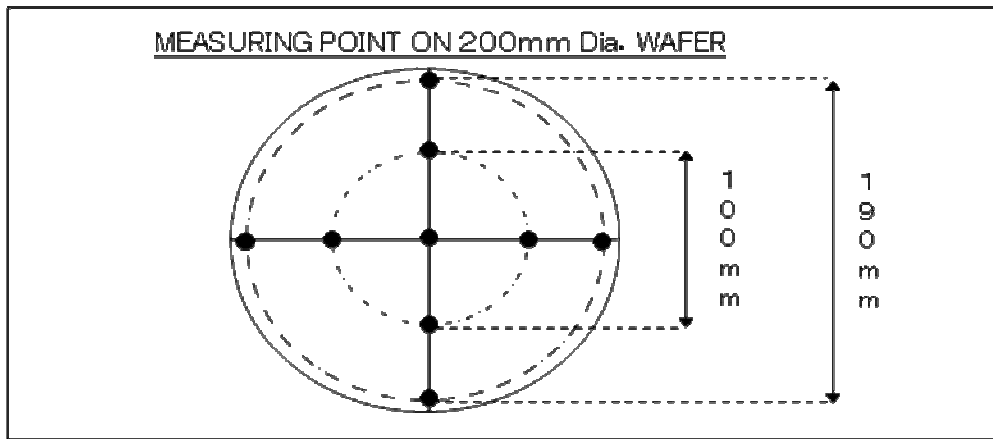

Figure 2: Measuring Points for deposition Uniformity
- F. Film thickness uniformity within a wafer shall be measured at programmed 9 points (Edge exclusion is 5mm). The measuring points is shown in Figure 2 as follows: